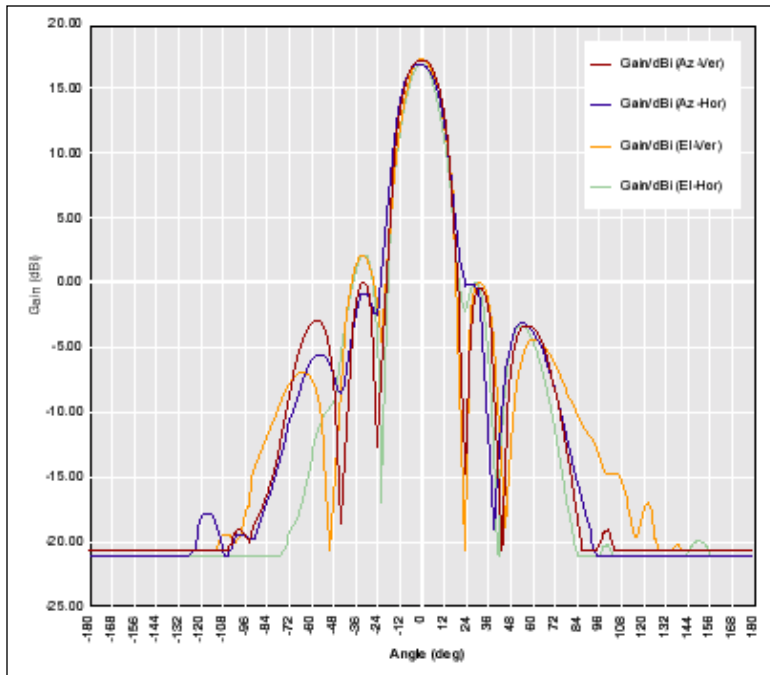

Figure 10-1 Typical SU Antenna Pattern
Table 10-1 describes the Subscriber Unit (SU) Antenna specifications and Figure 10-1 shows a typical SU antenna pattern.